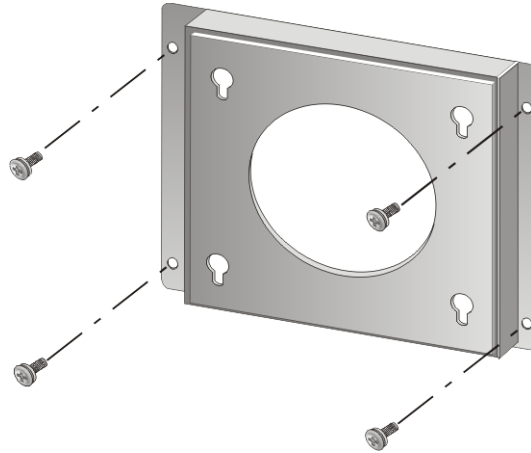

Figure 5-11: Wall-mounting Bracket
Step 5: Secure the mounting-bracket to the wall by inserting the retention screws into the four pilot holes and tightening them (**Figure 5-11**).